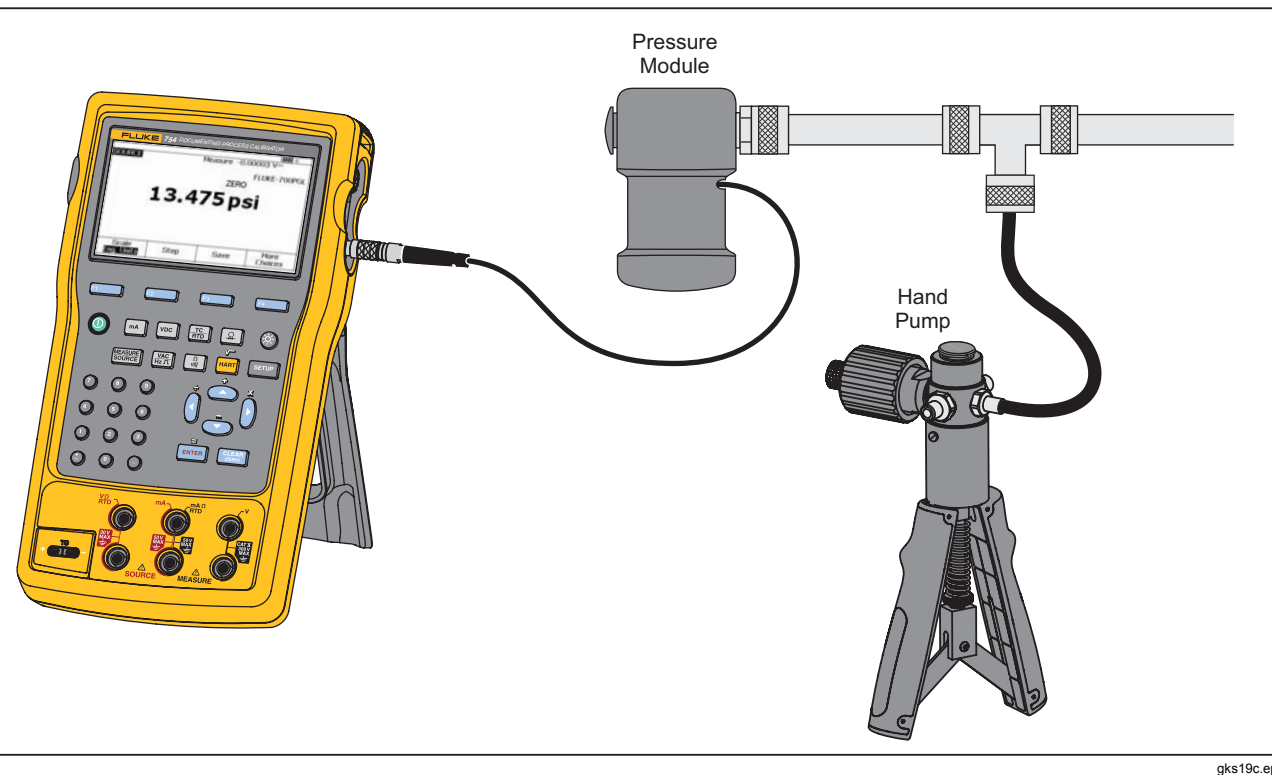

Figure 21. Connections to Source Pressure
Product has a source pressure display function where external pressure hand pump is necessary. Use this function to calibrate instruments where a pressure source or differential pressure measurement is necessary. See Figures 21 and 36 for information about that application.
To use the source pressure display, see Figure 21:
1. Connect a pressure module and pressure source to the Product as Figure 21 shows. The threads on the pressure modules accept ¼ NPT fittings. Use the supplied ¼ NPT to ¼ ISO adapter if necessary.